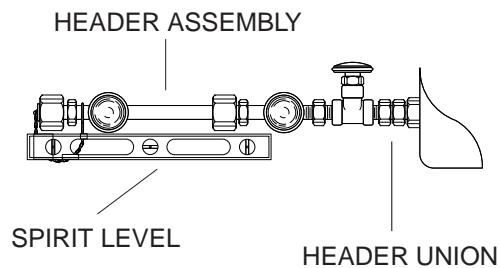

Figure 5. Level and Header Assembly
5. Secure the AutoSwitch Console in place by sliding the round retainers on the back of the back of the console and tighten lightly. These bolts stabilize the unit and are not load bearing (Figure 5).